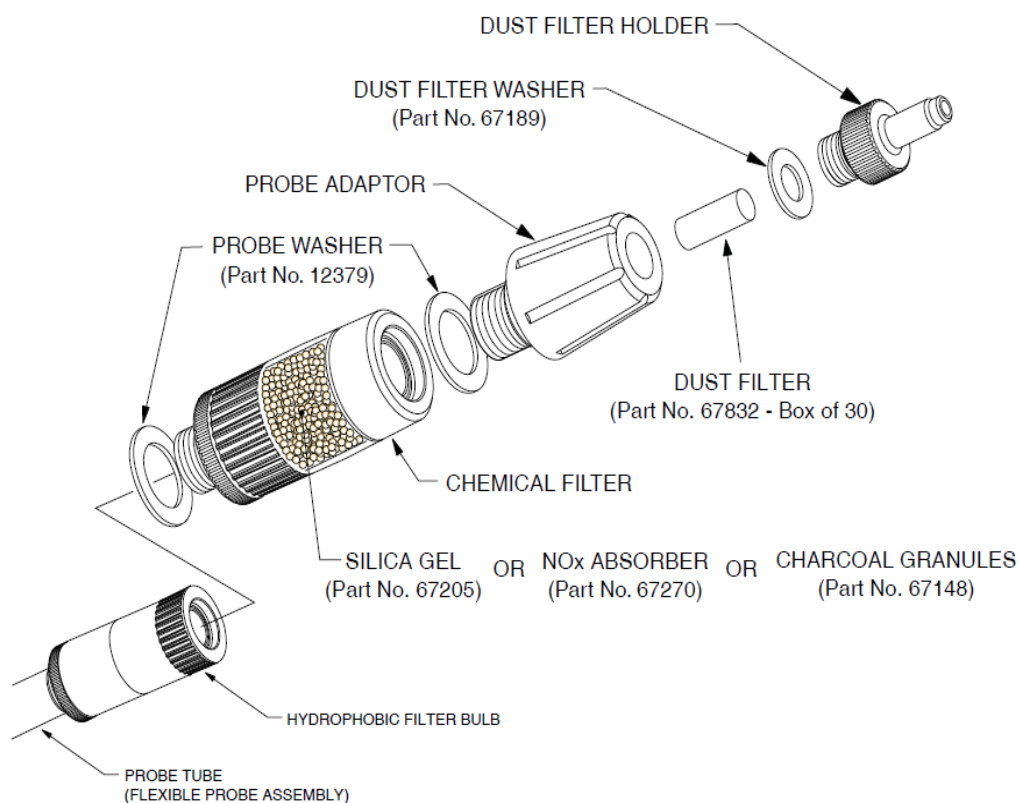

Figure 67: Filter Removal
2. Remove the probe adaptor from the chemical filter assembly, as shown in Figure 67: Filter Removal.
3. Unscrew the chemical filter assembly from the hydrophobic filter bulb, as illustrated in Figure 67: Filter Removal.